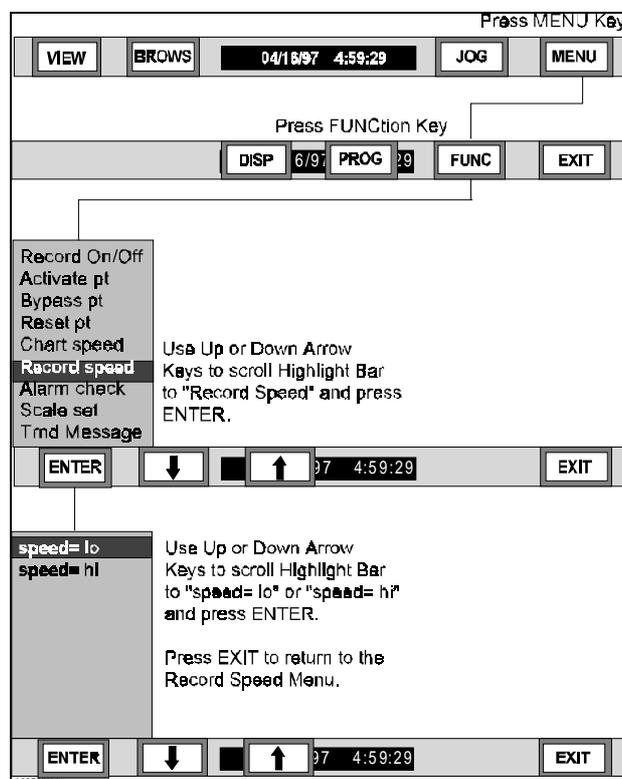

Figure 3-37 Record Speed Select Flow Chart
F. Record Speed - This menu item selects between High and Lo sample rates for record speed. The sample rates are set in the PROG – Record Setup - Sample Rate menu (Chapter 4). These rates can also be changed via an external event (Chapter 4). To change record speed, perform the instructions as follows and refer to Figure 3-37: